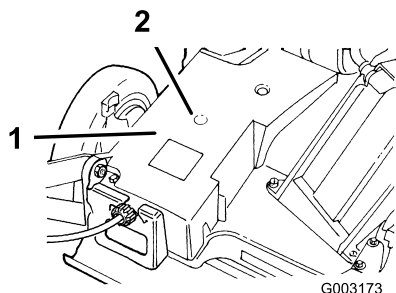

Figure 25
2. Install a grease gun onto the fitting through the belt cover opening (Figure 25).